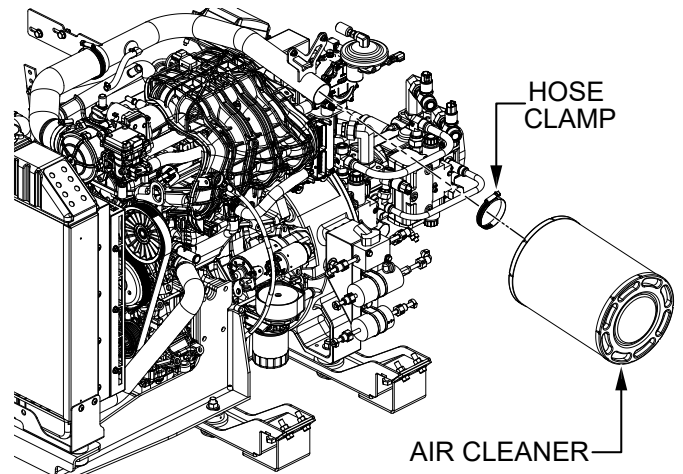

Figure 53. Air Cleaner Removal
4. Remove and set aside the hose clamp securing the air cleaner to the filter hose (Figure 53).